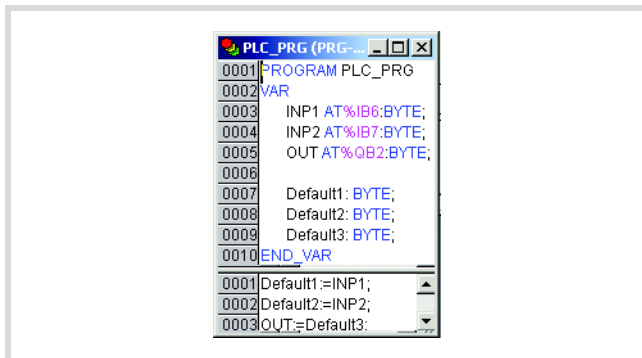

Figure 87: User program for XC200
- Create the program in accordance with Figure 87.